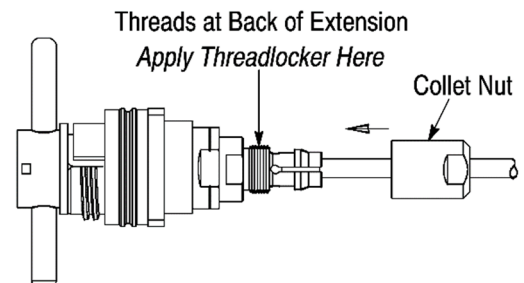

Figure 15
17. Check to make sure that the wave spring is flat against the EB insert. Then, while holding the cable jacket (to prevent the fibers from bending), slide the extension over the crimp sleeve and into the housing. Thread the extension until it is finger-tight (the extension should bottom on the back of the housing, and the crimp sleeve should not extend past the back of the extension). Be careful not to pinch, twist, buckle, or break the fibers. See Figure 15, Detail A.
18. Push-fit the housing key onto the housing. Use the T-handle to hold the connector, and using the 20-mm open-end wrench, tighten the extension onto the housing to a torque between 10 and 15 N·m. Refer to Figure 15, Detail B.
19. Apply 3 or 4 drops of threadlocker to the threads at the back of the extension. Refer to Figure 15, Detail C.
20. Thread the collet nut onto the extension. Using the 16-mm open-end wrench, tighten the collet nut to a torque between 10 and 12 N·m. See Figure 15, Detail C.